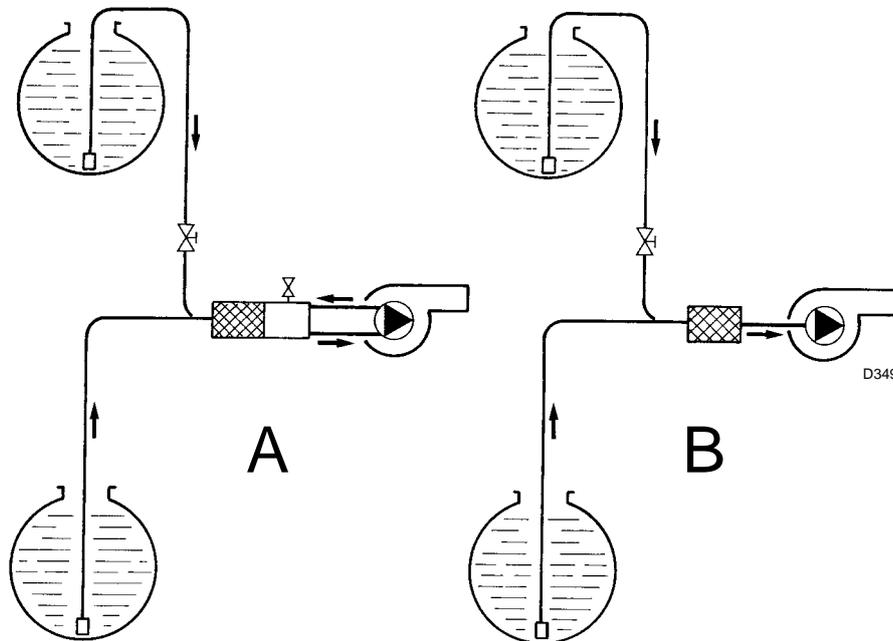

Fig. 19
- Pump external bypass (A, Fig. 19) (recommended)
- Pump internal bypass (B, Fig. 19)
When single-pipe fuel supply systems without degaussing units (Fig. 19 on page 23) are used, this screw, accessible from the connector 2), must be removed. In this way, the excess in the delivery discharged by the pressure regulator into the return line passes into the suction line.